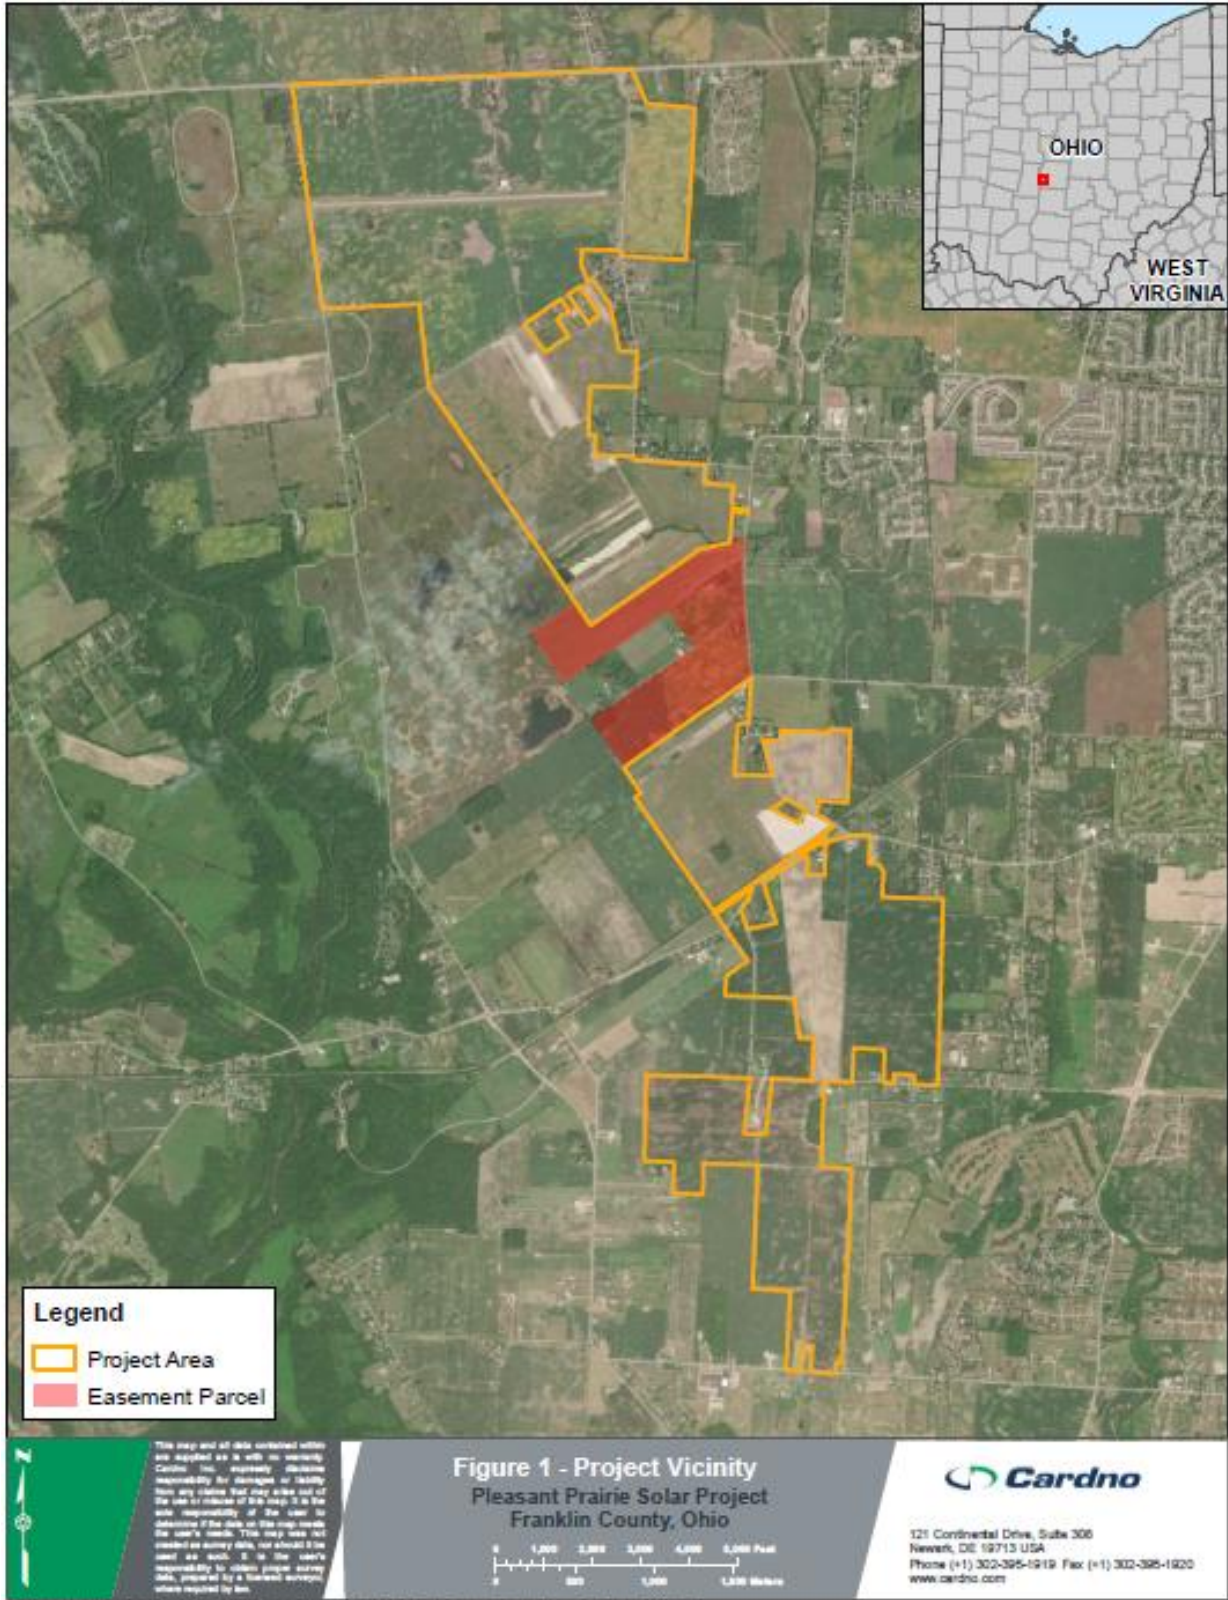

Figure 1. Pleasant Prairie Solar Project Vicinity Map in Central Ohio
- Figure 1. Pleasant Prairie Solar Project Vicinity Map in Central Ohio 1-2
Pleasant Prairie Solar Energy, LLC (Pleasant Prairie) is developing the Pleasant Prairie Solar Energy Project (Project), a 250 megawatt (MW) solar energy facility located in Franklin County, Ohio (Figure 1). As part of the planning for this site, Cardno, Inc. has developed this Drain Tile Mitigation Plan to ensure the continued operation of the existing drainage tiles within and adjacent to the Project.